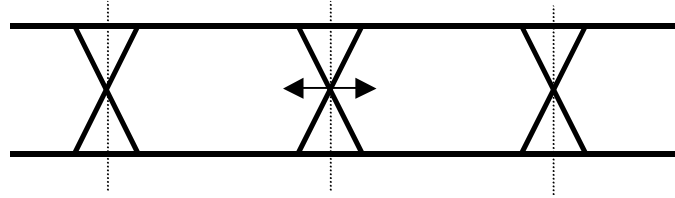

Fig. 4.3.1-3 Setting Half Period Jitter
- [12] Set the Half Period Jitter for the data output signal. The Cross Point time axis can be adjusted as shown in Figure 4.3.1-3 using this setting while observing the Eye pattern.